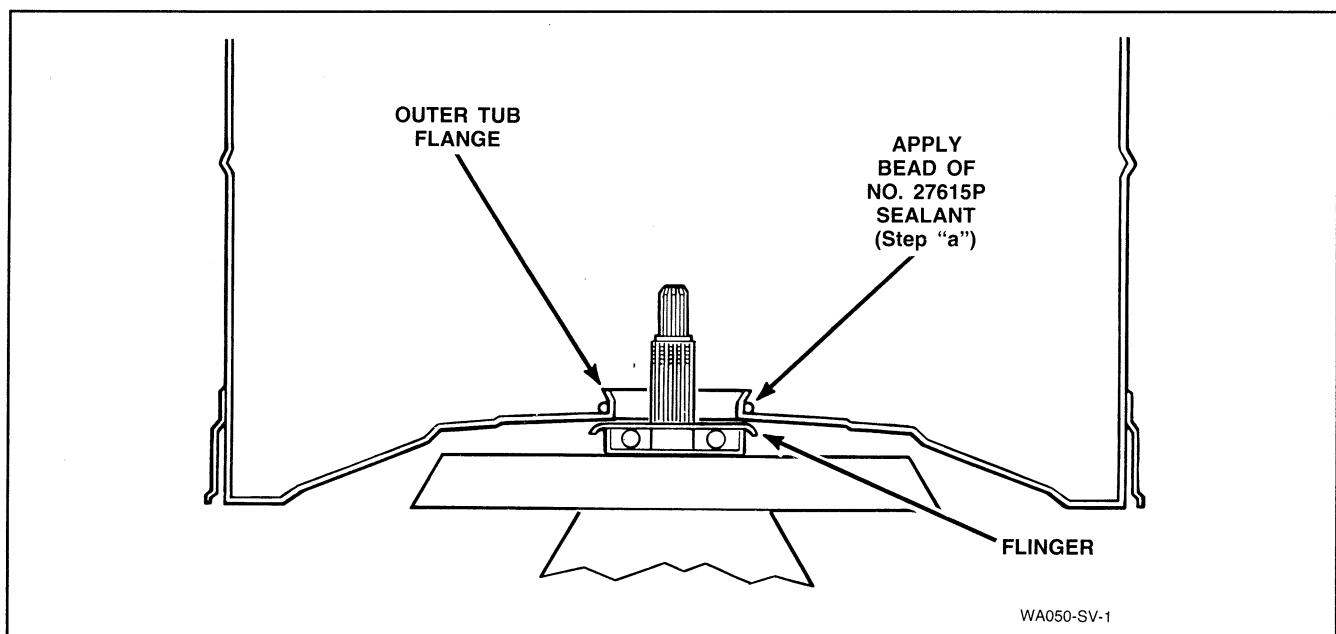

Figure 31
- a. Apply a small amount of No. 27615P Sealant, (supplied in kit) around the outer surface of the tub flange, *Figure 31*.
IMPORTANT: **DO NOT** allow sealant to get in contact with the flinger, *Figure 31*, as this could prevent the flinger from keeping moisture out of the upper bearing.